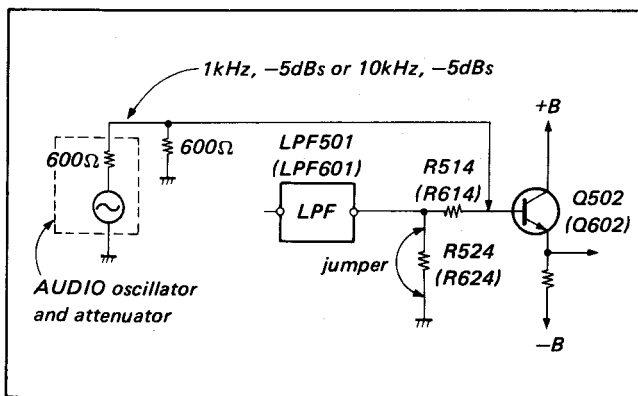

Fig. 5-33. BNR adjustment
- (1) Short R524 (R624) with a jumper wire.
- (2) Supply a 1 kHz signal at -5 dBs to the base of Q502 (Q602). (See Fig. 5-33).
- (3) Turn on the BNR switch and set up the PLAYBACK mode.
- (4) Connect VTVM to pin ④ of IC502 (IC602).
- (5) Adjust to -5 dBs with RV503 (RV603).
- (6) Change the signal to 10 kHz, -5 dBs.
- (7) Adjust to -5 dBs with RV504 (RV604).
- (8) Repeat (2) through (7), and ensure that -5 dBs $\pm$ 0.5 dB is obtained for both 1 kHz and 10 kHz signals.
- (9) Remove the jumper wire after making the adjustment.
- (1) Short R524 (R624) with a jumper wire. (See Fig. 5-33).
- (2) Supply a 1 kHz signal at -35 dBs to the base of Q502 (Q602).
- (5) Ensure that the VTVM level is -50 dBs $\pm$ 2 dB.
- (6) Change the signal to 10 kHz, -35 dBs.
- (7) Ensure that the VTVM level is -58 dBs $\pm$ 2 dB.
- (8) Set up the STOP mode.
- (9) Connect VTVM to pin ⑭ of IC502 (IC602).
- (10) Ensure that the VTVM level is -24 dBs $\pm$ 2 dB.
- (11) Change the signal to 1 kHz, -35 dBs.